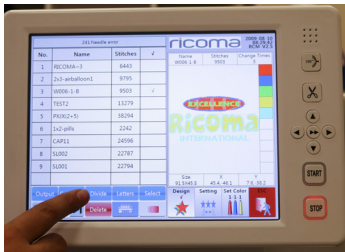

Figure 69
4. Select the "Divide" option along the bottom row of keys. **See Figure 69.**